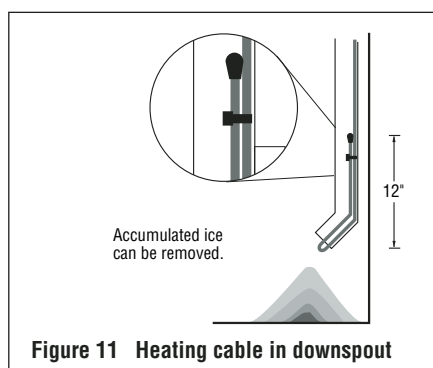

Figure 11 Heating cable in downspout
- Run heating cable along gutters and into downspouts, ending below the freezing level. Permanent attachment of the cable to the gutter bottom is not necessary. Loop the heating cable in downspouts. Do not leave the end of the Gardian in air at the end of the downspout as shown in Figure 11.